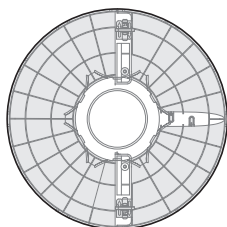

Fig.2
3. Pass the power cord through the flute, then insert the fan body into the base. (See Fig. 2)